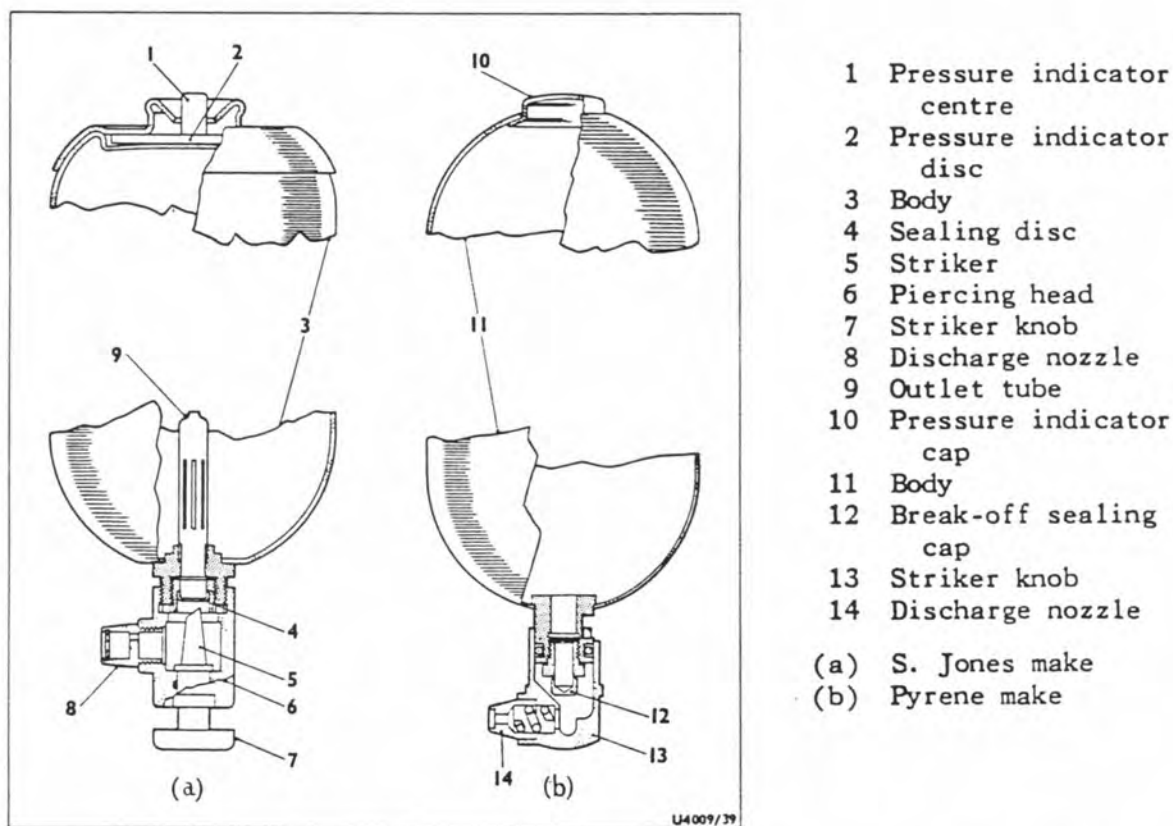

Fig 36 Wet water and chlorobromomethane fire extinguishers - expendable types
- (2) Check the pressure indicator by trying to move the disc (Fig 36(2)) or applying thumb pressure to the cap (10). If the disc is loose or the cap pressed in from convex to concave form, the extinguisher should be discarded and a replacement obtained.
- (3) Check that the discharge nozzle (8) or (14) is clear.